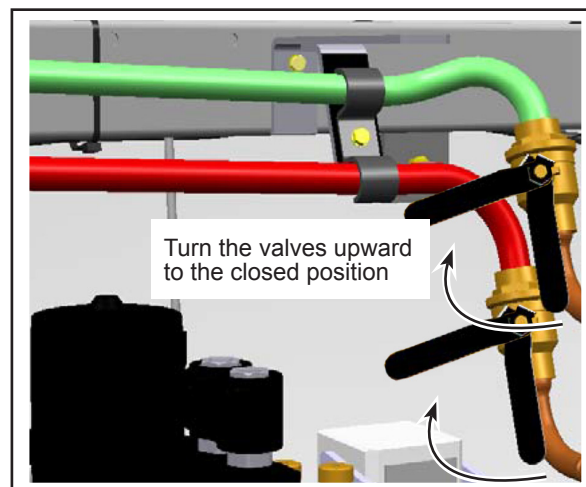

Figure 2 - IN and OUT Coolant Line Valves
- 1.5. Turn the coolant control valves upward on the IN and OUT pipe to the closed position (see Figure 2).